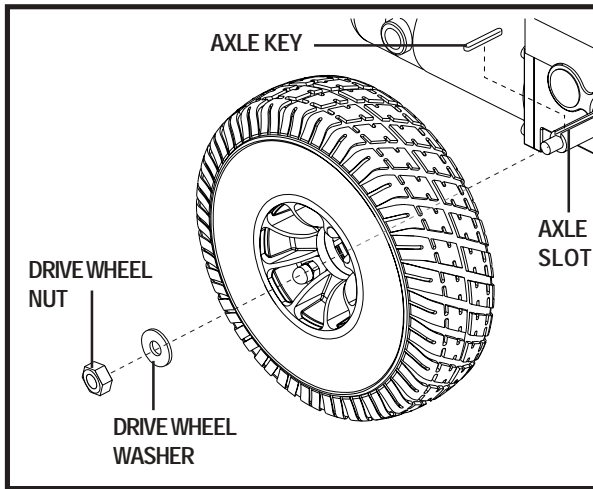

Figure 23. Quantum Dynamo 1107 Drive Wheel
4. Remove the drive wheel nut and washer from the axle. See figure 23.